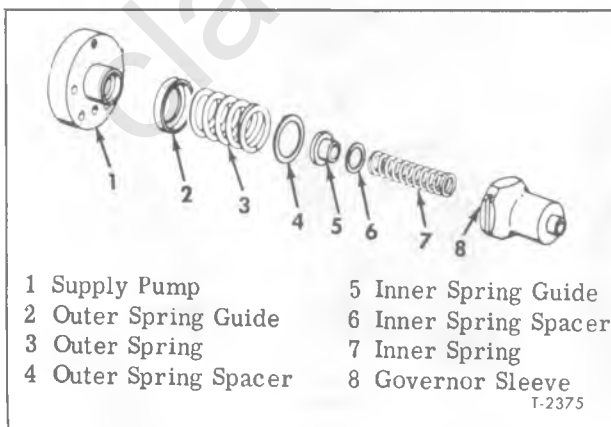
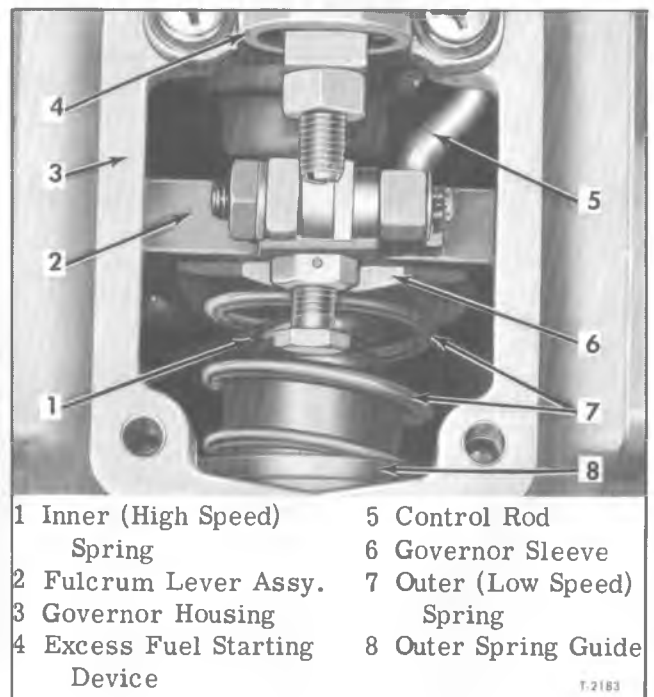
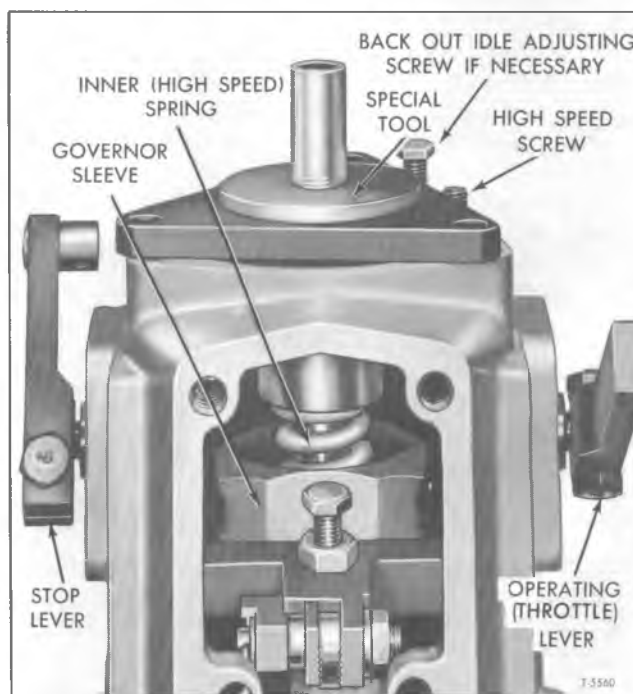
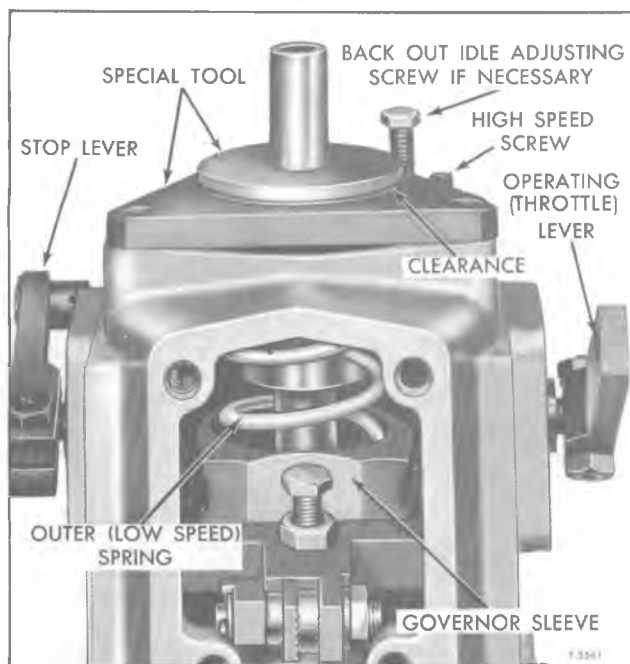

Figure 15—Governor Spring and Spacer Arrangement
Figure 16—View of Governor Mechanism Through Cover Opening
Figure 17—Special Tool Application for Selecting Inner (High Speed) Spring Spacer
Figure 18—Special Tool Application for Selecting Outer (Low Speed) Spring Spacer
4. Remove fuel supply pump as explained later under "Fuel Supply Pump Repair and Replacement" (fig. 35). Remove inner and outer governor springs and adjusting spacers (noting the position of spacers and spring guides). Figure 15 shows spacer and guide locations. The inner spring (7, fig. 15) is the high speed spring and must have a gap. The outer spring (3, fig. 15) is the low speed spring and must be precompressed. Determine the proper shim gasket in place as follows:
5. Position governor sleeve assembly in forward position as shown in figure 16. Then, place a quantity of adjusting spacers (6, fig. 15) between inner spring and the spring guide (5, fig. 15), so that when supply pump with gasket is held in installed position (flush with governor housing), inner spring can be turned but has no end play. This can be checked with a finger through governor cover opening (fig. 16). When this condition exists, remove supply pump and remove adjusting spacers to obtain proper gap of 0.089 to 0.108 inch.
6. Place a quantity of adjusting spacers (4, fig. 15) between governor sleeve (8, fig. 15) and outer spring (3, fig. 15), so that when supply pump with gasket is held in installed position, the outer spring can be turned but has no end play. Then, remove supply pump and add adjusting spacers with total thickness of 0.059 to 0.079 inch to give proper pre-compression on outer spring.
NOTE: Do not install outer spring (3, fig. 15) when checking spacer pack for inner spring (7, fig. 15) or install inner spring when checking spacer pack for outer spring.
A special tool (J-22452) is available for use to accurately select injection pump governor spring spacers. The tool serves in determining the required spacers, both for the inner (high speed) and the outer (low speed) spring. Refer to figure 15 for location of spacers. Whenever occasion arises for checking either of the governor springs, the other spring should also be checked. Tool may be used without removing the injection pump assembly from engine.
NOTE: Refer to figure 15 for key numbers used in following text, unless otherwise specified.
2. Place inner spring guide (5) and spacers (6), which were removed in disassembly procedure, in the cavity provided in tool, then place tool in position with spring guide (5) inserted in spring and tool body seated against governor housing as shown in figure 17. Use short supply pump mounting bolt to temporarily secure tool flange to the pump housing.
3. Check engine stop mechanism to be sure stop lever is in the "STOP" position (fig. 16), then while holding governor sleeve forward, read the inner spring graduated scale to determine if spring spacers should be added or removed, and in what thickness (fig. 17). The inner spring can be turned but has no end play.
4. Add or remove inner spring spacers (6) so the tool scale is indexed with line when the parts are held in firm contact without compressing the inner spring. Spacers (6) are available in seven different thicknesses and may be selected in varying combinations to provide proper adjustment of inner spring. Tool scale will indicate a gap of 0.089 to 0.108 inch with proper spacers in place.
6. Assemble outer spring spacers (4), removed at disassembly, and the outer spring (3) at recess in center of the governor sleeve (8).
7. Place outer spring guide (2) over pilot on special tool (fig. 18), then place tool assembly at governor housing with pilot entered into outer spring. Governor sleeve (8) must be held forward as far as possible (fig. 16).
8. Observe outer spring clearance with feeler gauge on tool to determine if spacers are to be removed or added and in what thickness (fig. 18). The outer spring can be turned but has no end play.
9. Remove the outer spring (3), guide (2) and the tool components which are removable from tool mounting flange.
10. Add or remove spacers (4) as necessary to position the tool clearance to proper outer spring adjustment. Tool clearance will indicate outer spring compression of 0.059 to 0.069 inch when proper spacers are in place (fig. 18).